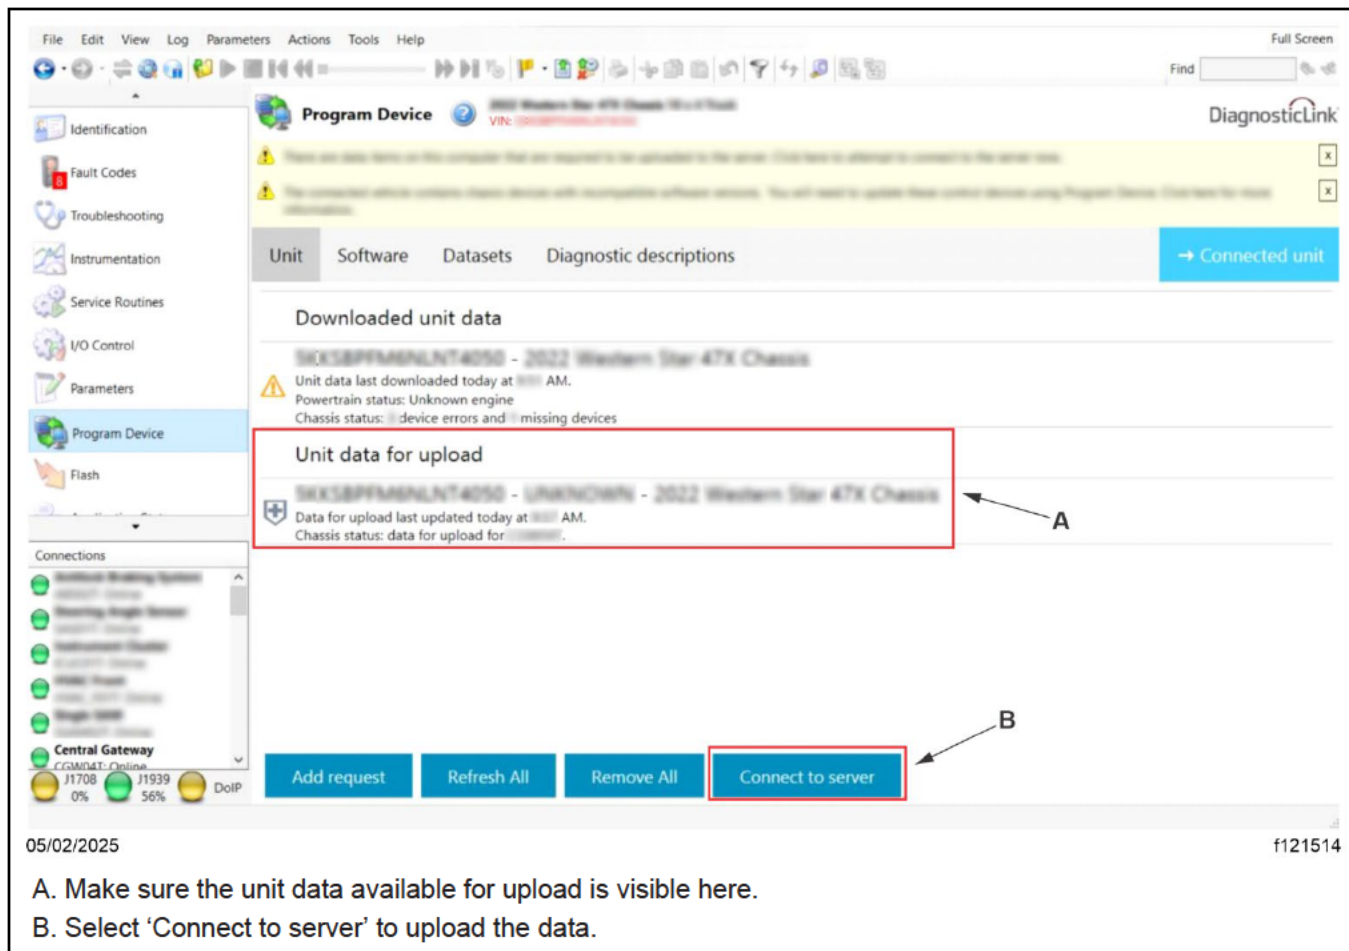

Fig. 12, Unit Data Upload to the Server
16. The unit data available for upload is visible under the 'Unit data for upload' panel. Select 'Connect to server' to upload the data. See Fig. 12.